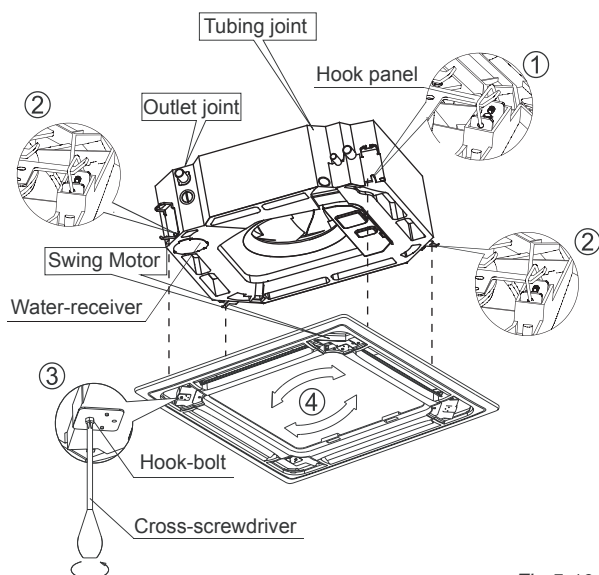

Fig.5-10
- Align the swing motor on the panel to the tubing joints of the body properly. (Refer to Fig.5-10)